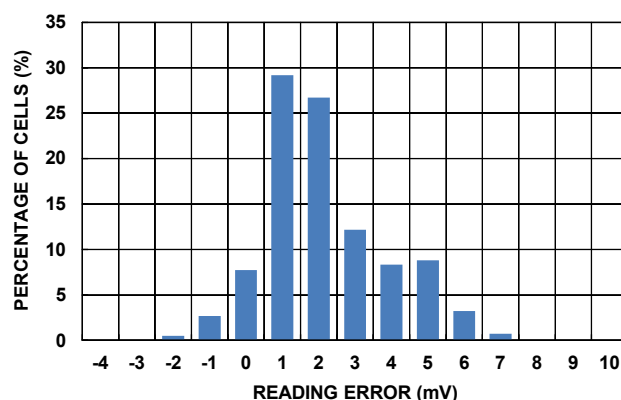

FIGURE 8. CELL READING ERROR FROM EVALUATION BOARDS AT CELL VOLTAGE FROM 2.6V TO 4.0V, AND -20°C TO +60°C HISTOGRAM
- Stresses may be induced in the ISL78610 during soldering or other high temperature events that affect measurement accuracy. Initial accuracy does not include effects due to this. See Figure 8 on page 16 for cell reading accuracy obtained after soldering to Renesas evaluation boards. When soldering the ISL78610 to a customized circuit board with a layout or construction significantly differing from the Renesas evaluation board, design verification tests should be applied to determine drift due to soldering and over lifetime.